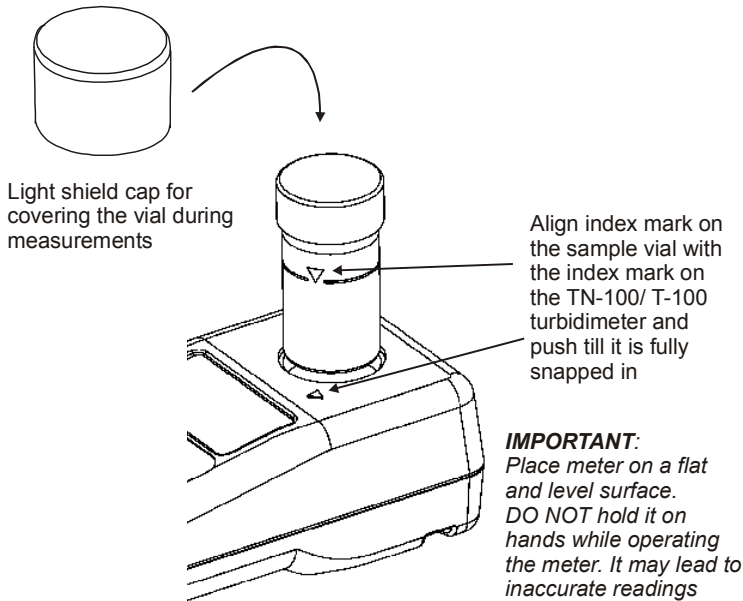

Figure 10: Align sample vial's index mark with meter's index mark
2. Place the sample vial inside the sample well and align the vial's index mark with the meter's index mark. See **Figure 10**.